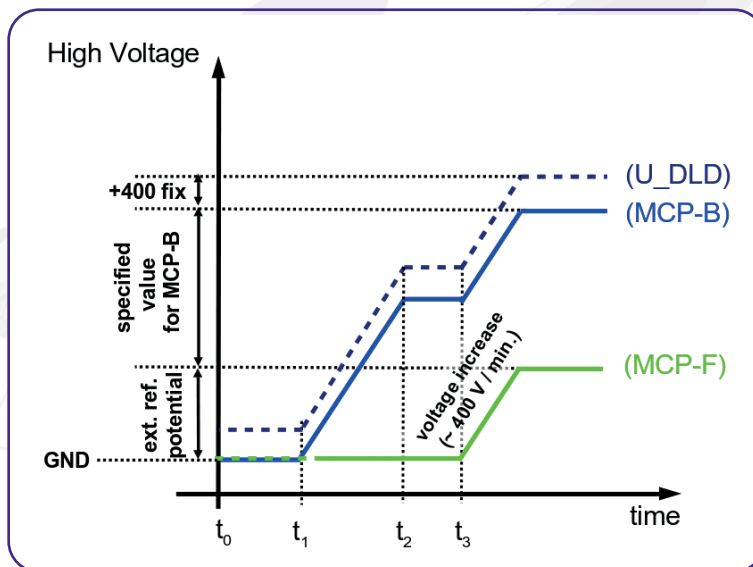

Figure 5: Schematic sketch on voltage ramping with external reference voltage.
- A schematic sketch on how to ramp the voltages is given in **Figure 5**.